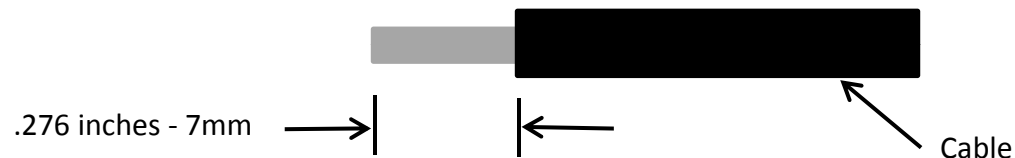

Figure 2.
1. Strip cable .276 inches - 7mm being careful not to nick conductors using Amphenol Strip tool PV-670509-000 suitable for cables of 2,5SQMM, 4SQMM and 6SQMM. See Figure 2.